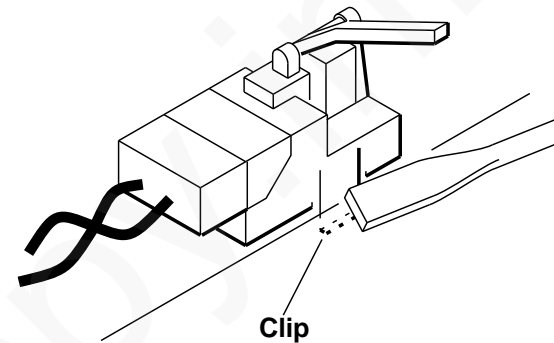

Figure 15. Sensor removal
- Using a small screwdriver, gently push on clip (Figure 15) to release sensor.